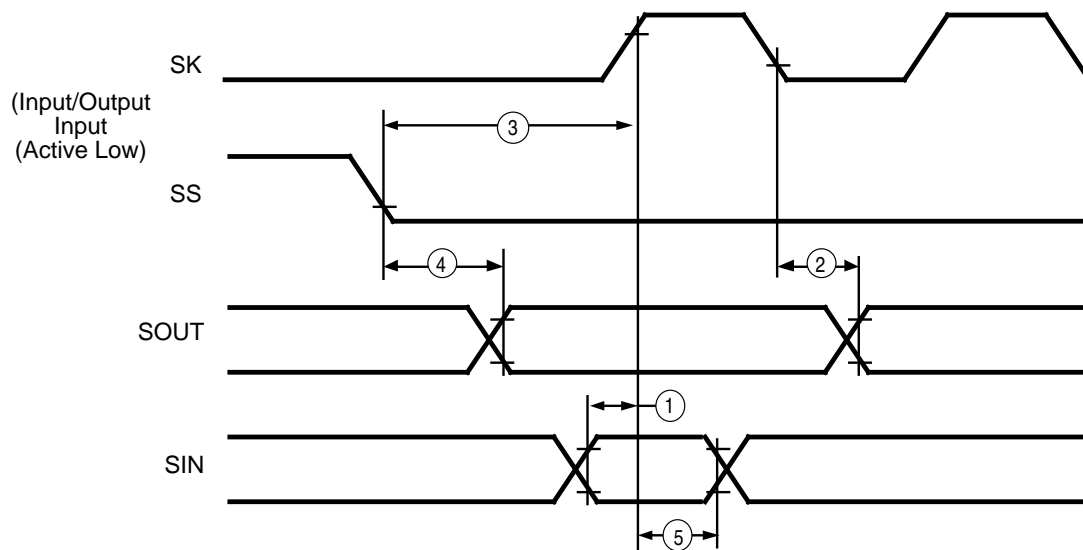

Figure 25. SPI Timing
When the communication between the master and slave is complete, the SS goes High. Unless disconnected, for every bit that is transferred into the slave through the SIN pin, a bit is transferred out through the SOUT pin on the opposite clock edge. During slave operation, the SPI clock pin (SK) is an input (Figure 25). In master mode, the DSP must first activate a SS through one of its I/O ports. Next, data is transferred through the master's SOUT pin one bit per master clock cycle. Loading data into the shift register initiates the transfer. In master mode, the master's clock drives the slave's clock. At the conclusion of a transfer, a Receive Character Available SPI interrupt and flag is generated. Before data is transferred through the SOUT pin, the SPI Enable bit in the SCON Register must be enabled. The MSB bit 7 is shifted out first.